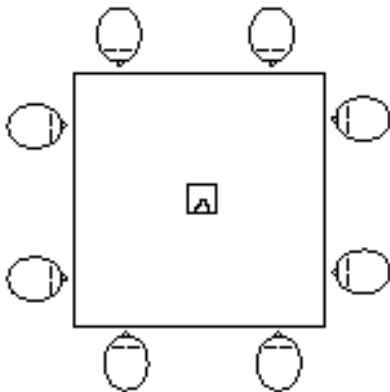

Fig. 12
- Lay a single PZM in the middle of the table (Fig. 12).